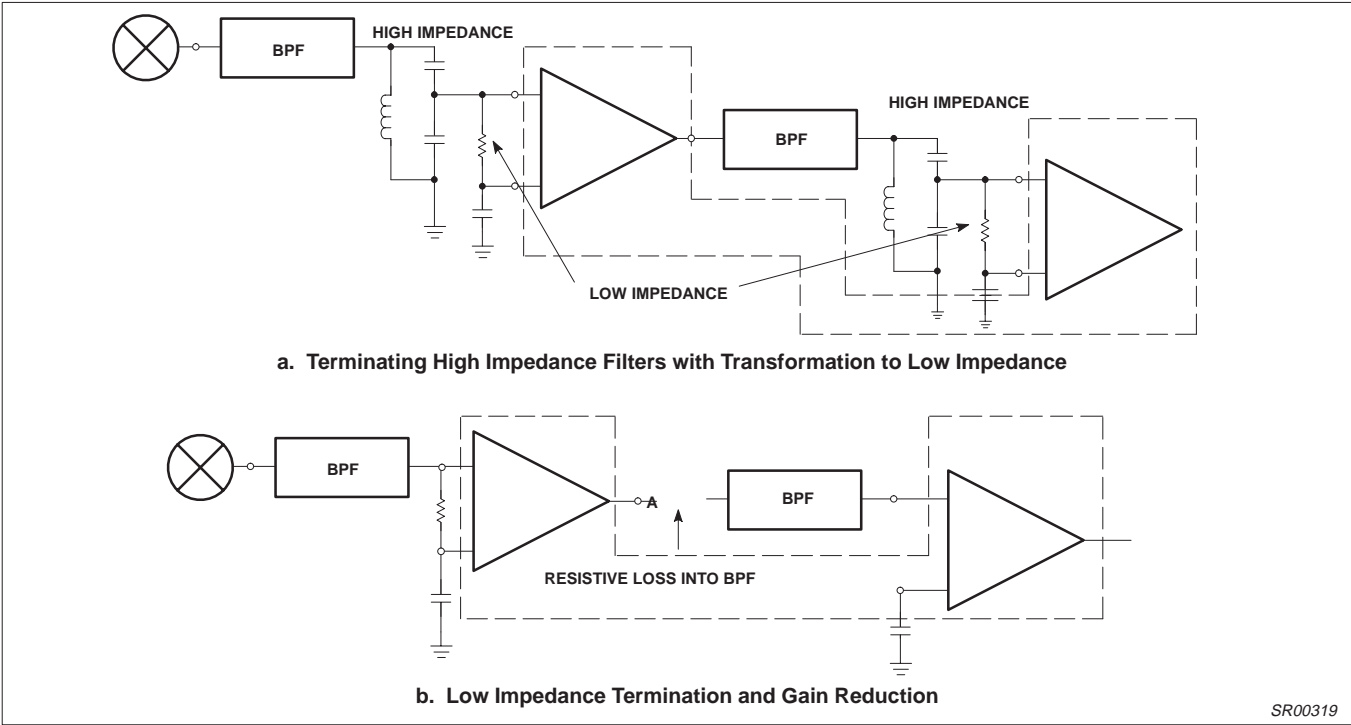

Figure 9. Practical Termination
There are three primary ways to deal with regeneration: (1) Minimize the feedback by gain stage isolation, (2) lower the stage input impedances, thus increasing the feedback attenuation factor, and (3) reduce the gain. Gain reduction can effectively be accomplished by adding attenuation between stages. This can also lower the input impedance if well planned. Examples of impedance/gain adjustment are shown in Figure 9. Reduced gain will result in reduced limiting sensitivity.
At 455kHz, if the layout of Figure 3 or one substantially similar is used, it is possible to directly connect ceramic filters to the input and between limiter stages with no special consideration. At frequencies above 2MHz, some input impedance reduction is usually necessary. Figure 9 demonstrates a practical means.